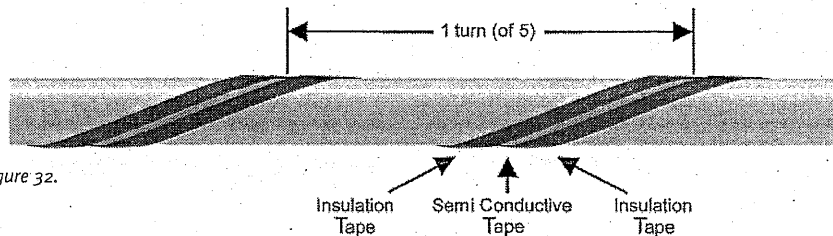

Figure 32.
- Using the supplied Insulation Tape (or 50mm packing tape), cover the coarse spiral section of the Semi-Conductive Tape to ensure that it stays in place during the application of the Heatshrink tubes. Do this first by covering the left half of the tape, then using a second length to cover the right half of the tape for the full length of the spiral. (Figure 32)